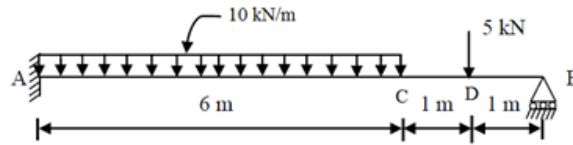

Figure 5
5. (a) Analyse the propped cantilever shown in Fig.5 and draw bending moment diagram. [7M]